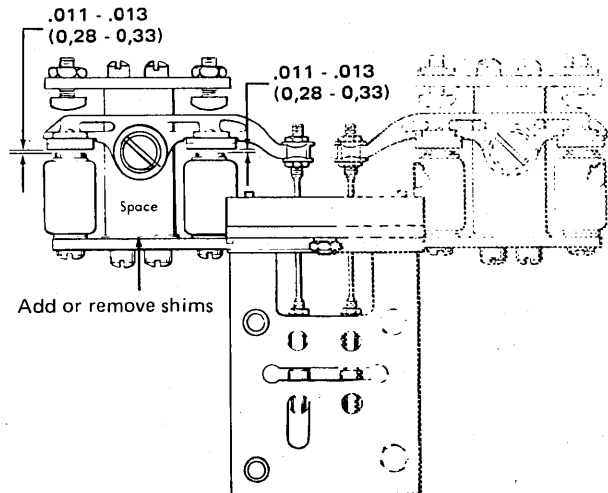

Figure 4-63. Space Start-Stop Magnet Armature in Neutral Position
3. Add or remove the shims under the pivot support block to obtain .011 to .013 in. (0,28 to 0,33 mm) clearance between the start-magnet and stop-magnet cores and the armature (Figure 4-63). The optimum clearance between the armature and the magnets when in the neutral (de-energized) position is .011 to .013 in. (0,28 to 0,33 mm). Some spool valve units have a .011 to .014 in. (0,28 to 0,36 mm) clearance, which is correct. The spool valve adjustments are not critical. Normally, this adjustment must be changed only when related parts have been replaced.